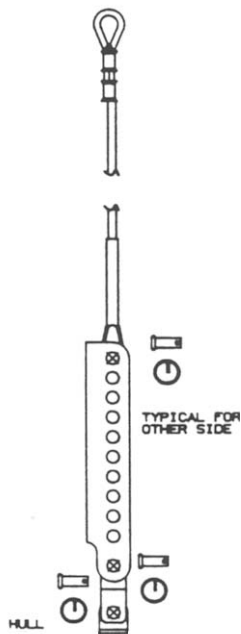

FIGURE 26
14.5 Attach the left shroud to the top hole of the left shroud adjuster with a 1/4" x 1/2" clevis pin and lock ring. Secure the base of the shroud adjuster to the toggle with a clevis pin and lock ring. Then secure the toggle to the tang on the left hull using a clevis pin and lock ring. (FIGURE 26)